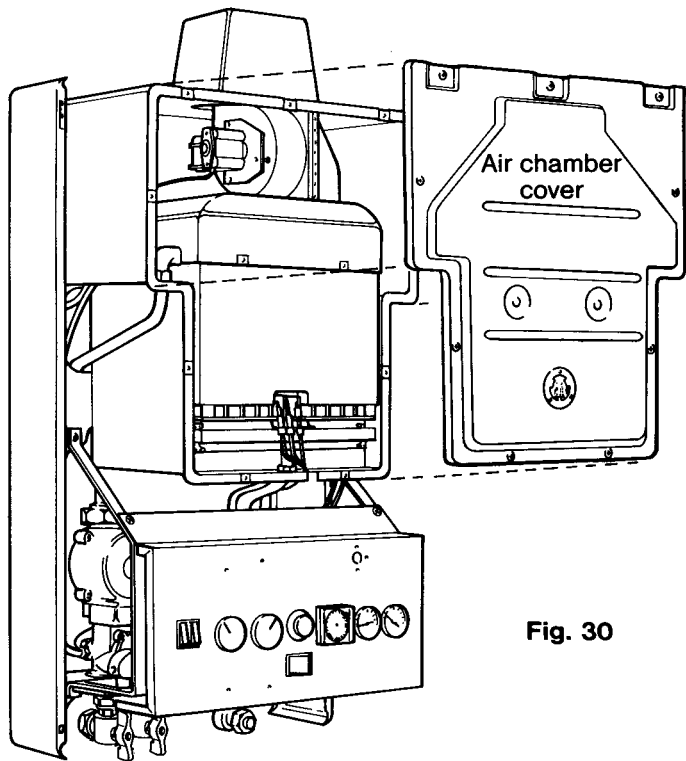
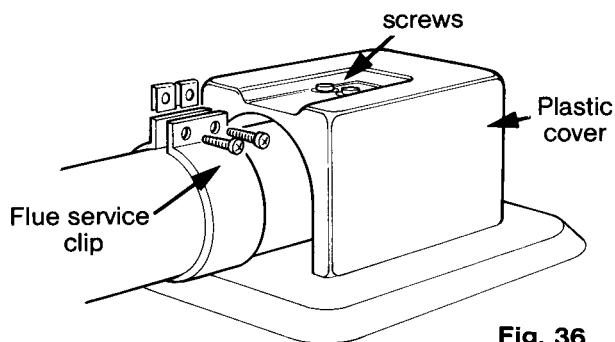

Fig. 30
Fig. 36
8.5.2 Remove room sealed chamber front cover plate by releasing nine screws and easing cover off. The screws are not captive (Fig. 30).
See figs 36 - 38 & fig 30
8.8.2 Remove room sealed chamber cover (clause 8.5.2 & fig 30)
8.8.4 Remove decorative plastic cover (fig 36) by removing 2 screws in top recess, and lift off.